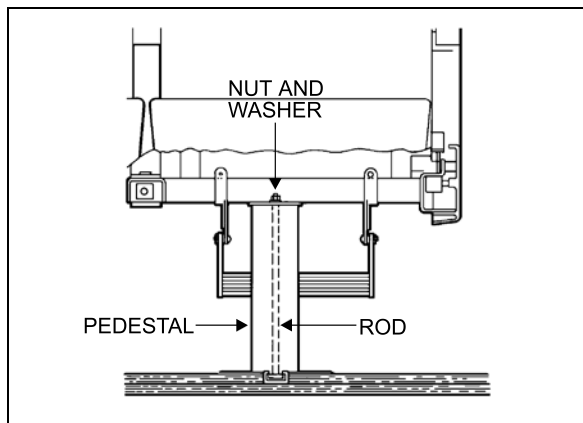

FIGURE 79: SEAT PEDESTAL ASSEMBLY
5. Remove 2 nuts and washers holding seat frame to pedestal rods. See Figure 79.